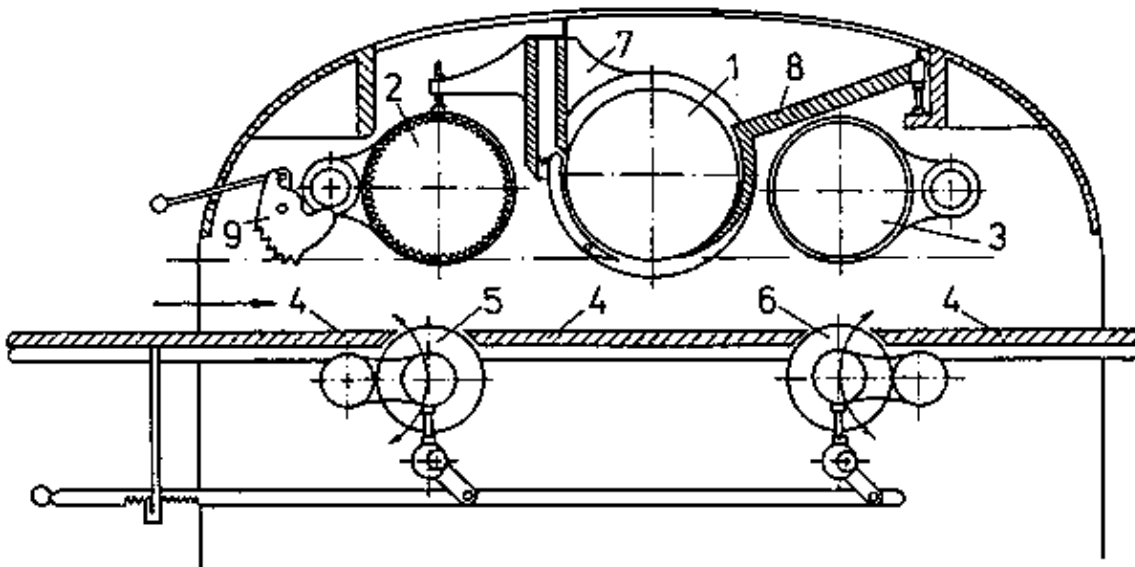

Figure 6 – Construction of the thicknessing miller
- Maximum chip removal is determined by the device for chip thickness limitation (see Figure 6) (depending on the type of the machine).